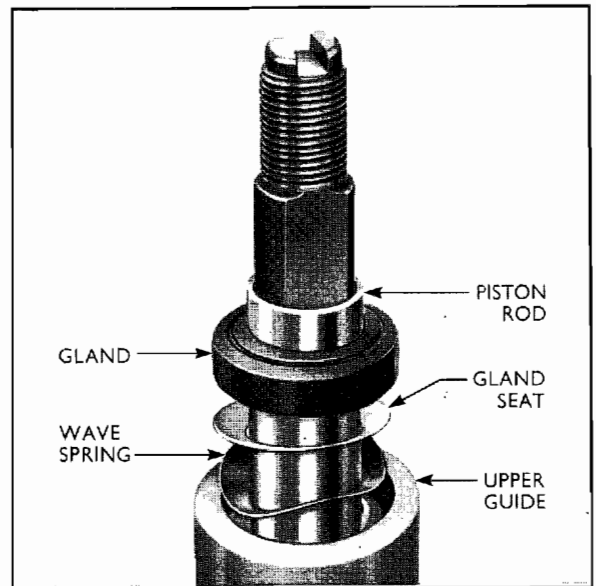

Fig. 8
11. Withdraw the piston rod gland from the upper guide and lift out the gland cup or seat and the wave spring from the upper guide, see Fig. 8.